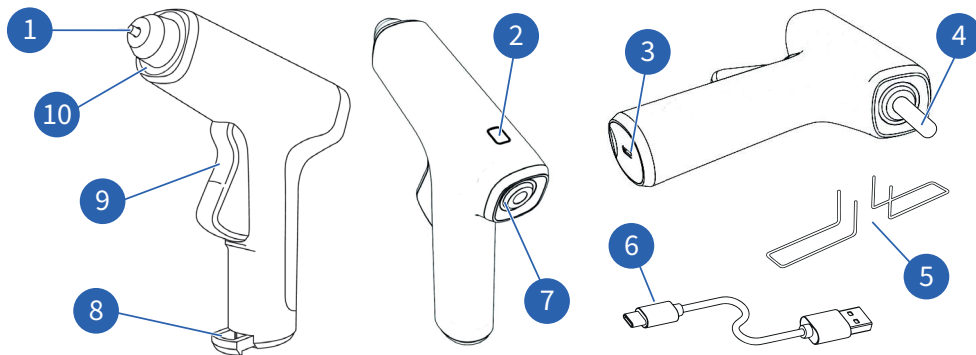
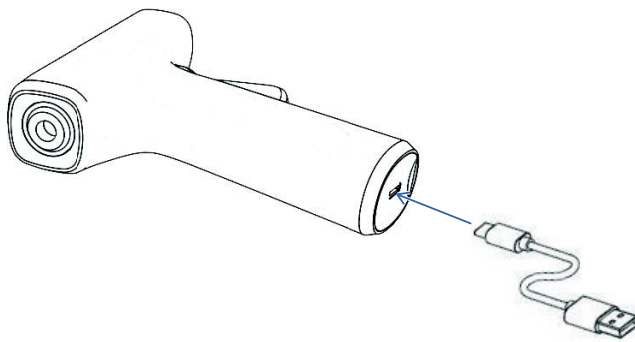

Fig. 1: Overview
Fig. 2: USB charging cord
1. Insert the charging plug (Fig. 1/6) into the charging socket (Fig. 1/3) and ensure that they are connected correctly (Fig. 2).
Backside LED (Fig. 1/7):